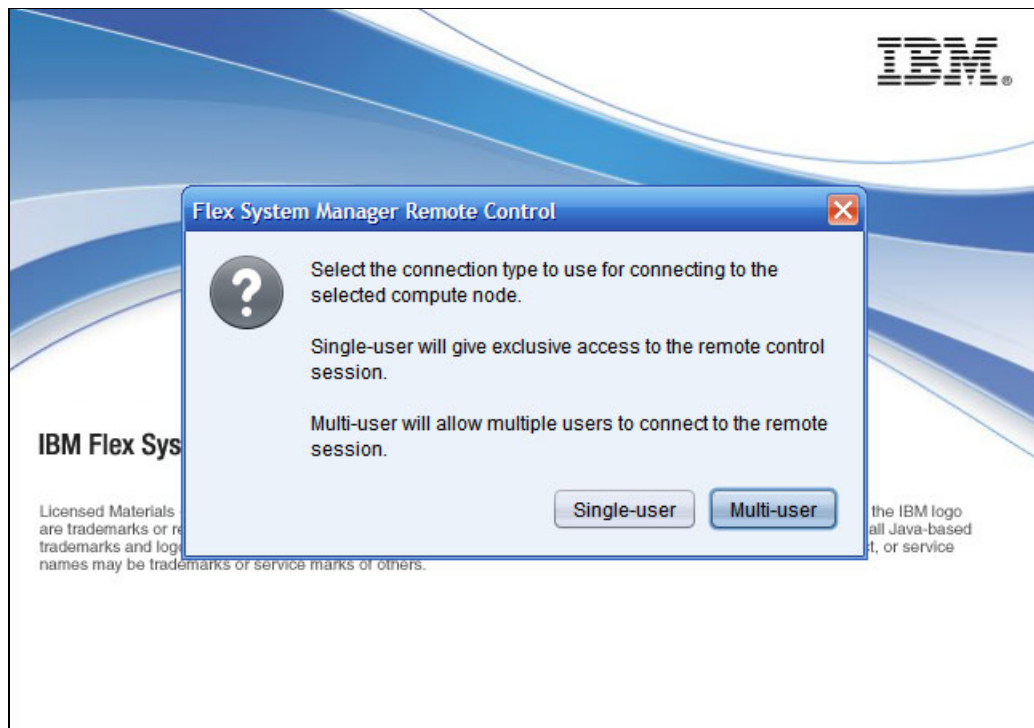

Figure 7-58 FSM Remote Control connection type window
3. Select one of the connection types, as shown in Figure 7-58: